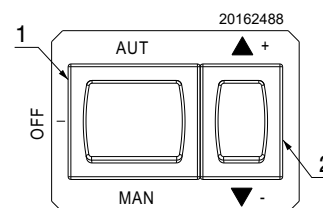
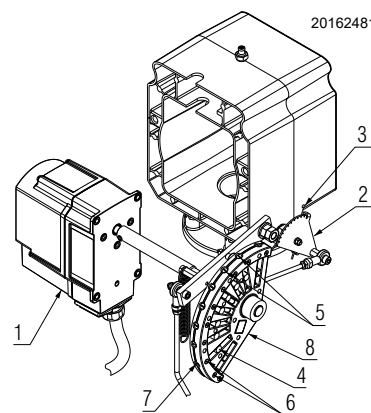

Fig. 38
Fig. 43
Switch off the burner using the switch 1)(Fig. 38), OFF position.
Close the control circuit and set switch 1)(Fig. 38) to "MAN". As soon as the burner starts check the direction of rotation of the fan blade, looking through the flame inspection window 18)(Fig. 4, page 12).
- Move the selector 1)(Fig. 38, page 29) in manual position.
- Move the selector 2)(Fig. 38, page 29) in position (+) (increase output) and keep it until the servomotor has opened the air damper and the gas butterfly valve to 90°.
Progressively adjust the end profile of cam 4)(Fig. 43) by turning the cam adjustment screws as they appear through the access opening 6).
- Move the selector 2)(Fig. 38, page 29) in position (-) (reduction output) until the servomotor has closed the air damper and the gas butterfly valve to 15° (factory set adjustment).
- If it has to be increased move the selector 2)(Fig. 38, page 29) in position (+) (increase output) (i.e. open the gas butterfly valve by 10-15°), increase the cam black angle with small successive movements, i.e. take it from angle 15° to 17° - 19°.... (Refer to paragraph "Cams adjustment" on page 29).
- Move the selector 2)(Fig. 38, page 29) in position (-) (reduction output) until the servomotor is taken to the minimum opening position and measure the gas delivery.
Progressively adjust the starting profile of cam 4)(Fig. 43) by turning the screws working through the access hole 6).
- Place the selector 1)(Fig. 38, page 29) in manual position.
- Place the selector 2)(Fig. 38, page 29) in middle position and set the variable profile cam 4)(Fig. 43) by turning the screws 5).